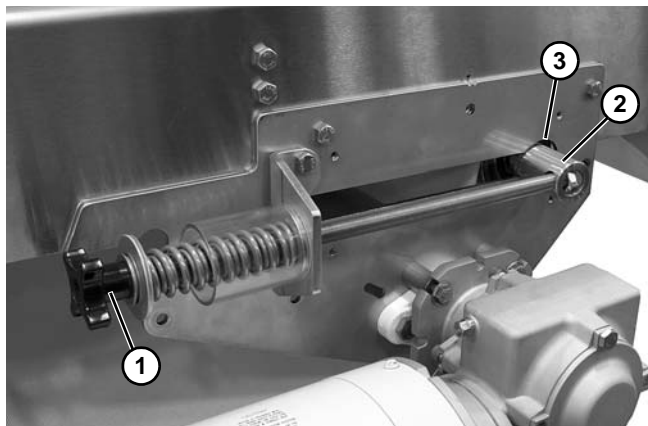

Figure 96
6. Loosen tension nut (**Figure 96, item 1**) on each side of the center drive so that the tension pulley spacer (**Figure 96, item 2**) aligns with hole (**Figure 96, item 3**).